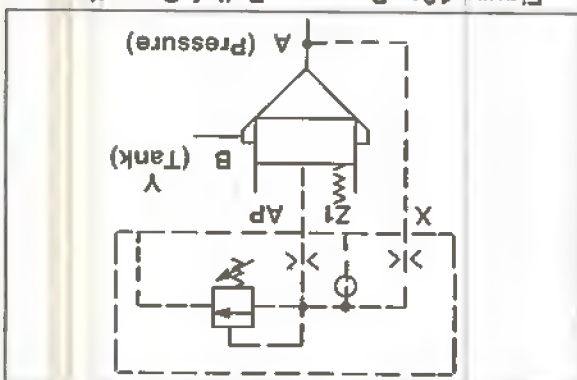

Figure 10a. Pressure Relief Operation
Figure 10a illustrates the operation of the pressure relief valve. The orifice plug at the (AP) area dampens the reaction time of the insert poppet and prevents instability. When system pressure at the 'A' port area exceeds the pressure at the (AP) area, the insert poppet lifts off its seat and allows flow from 'A' port to 'B' port (tank). This relieves system pressure at the 'A' port.